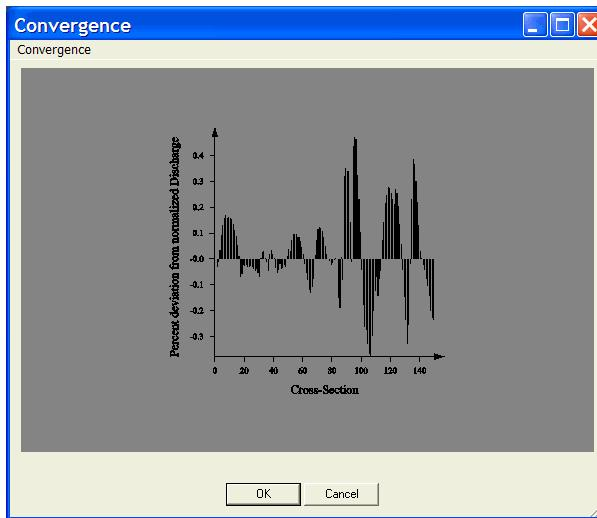

Figure 3.2.1m. A plot of the convergence of the simulated discharge to the specified discharge at each cross-section of the model grid.
- Select OK in the Dialog and then from the menu select **FASTMECH -> RUN** from the main menu. Upon completion of a successful model run, inspect the convergence plot by selecting **FASTMECH -> View Convergence**. The Convergence plot shows the percent deviation from the normalized discharge at each "cross-section" in the grid. In other words, the predicted discharge at a cross-section divided by the specified discharge multiplied by 100. Acceptable values are generally thought to be +/- 3 percent. Figure 3.2.1m shows that the predicted discharge at each cross-section is approximately +/- 0.4 percent.